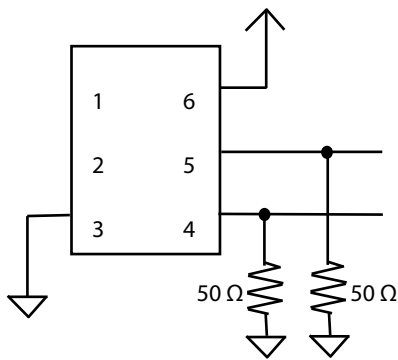
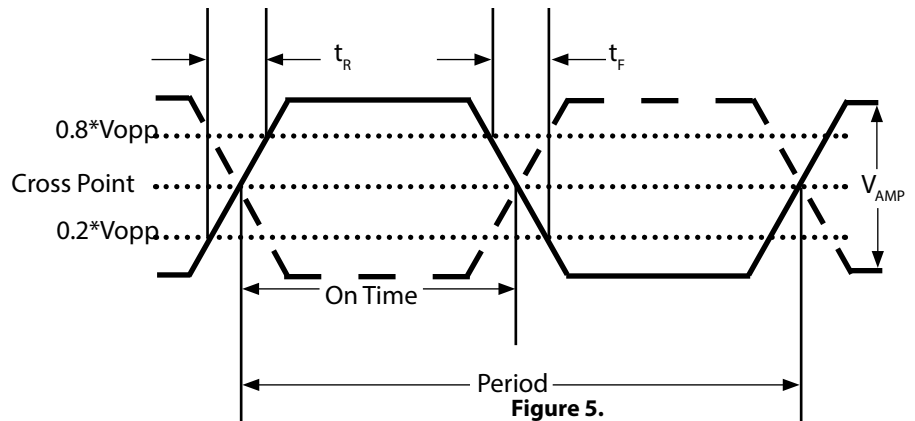

Figure 4.
Figure 5.
2. Figure 4 defines the test circuit and Figure 5 defines these parameters.